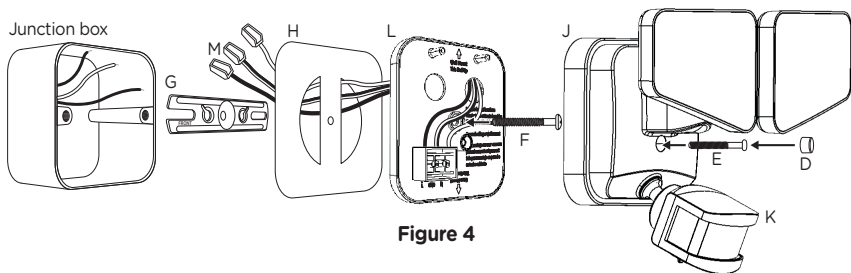

Figure 4
- f. Route the wires with Push-in quick wire connectors (M) through the provided gasket (H) (see **Figure 4**).